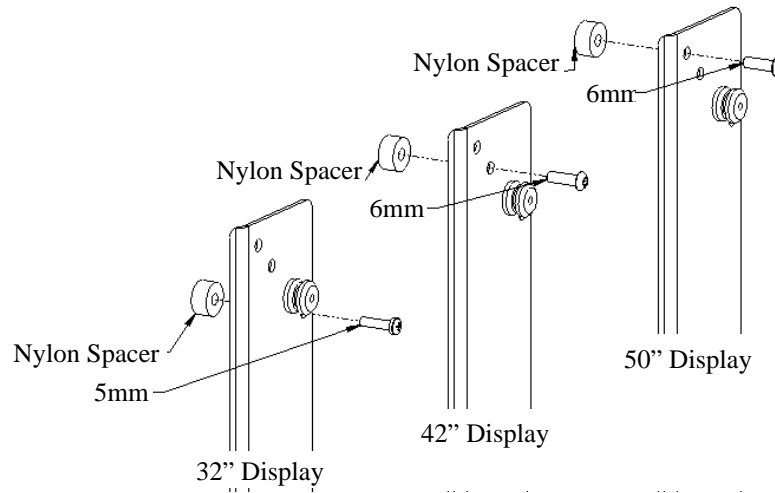
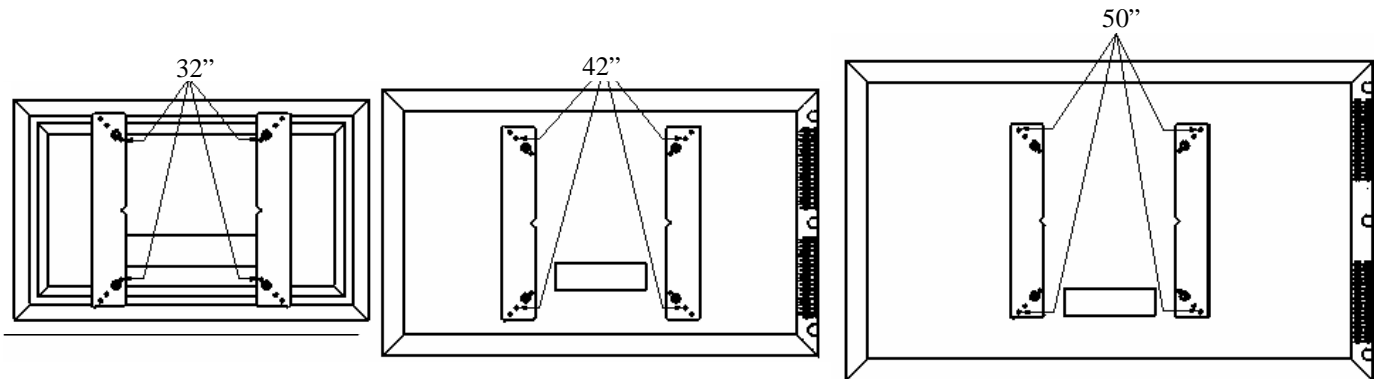

Figure 4. Bracket Hole Location
Figure 5. Bracket Attachment Location
- Attach mounting brackets to the display using the M5 screws for 32" screen or M6 for the 42" and 50" screens (see Figure 4 and Figure 5).